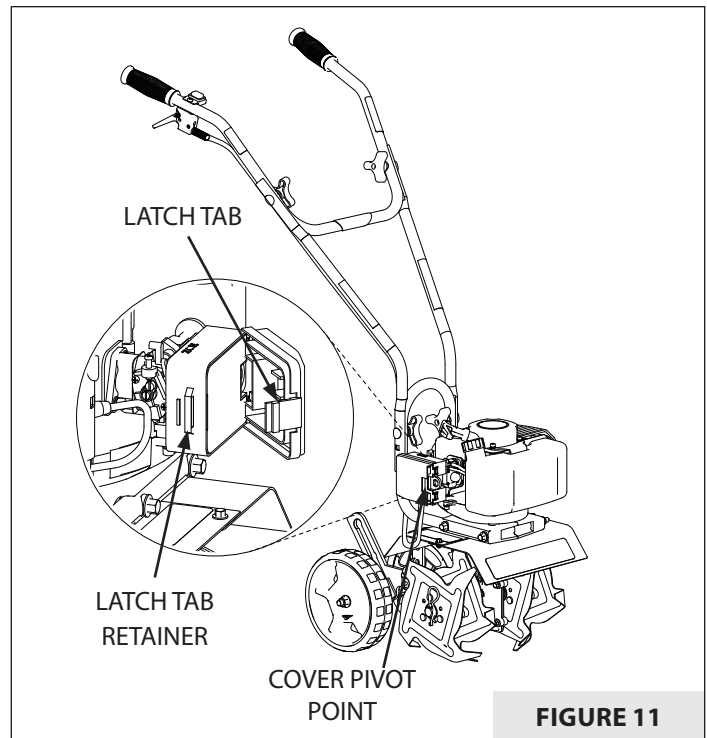

FIGURE 11
2. To remove air filter cover, squeeze the latch tab and rotate about cover pivot point to remove from air filter base. **SEE FIGURE 11.**